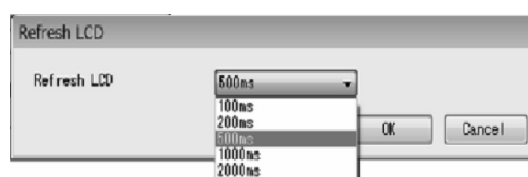

Fig.80
- ③ Click the triangle on the right side of "Refresh LCD" as shown in Fig. 80, and select the frequency to set from the drop-down list.